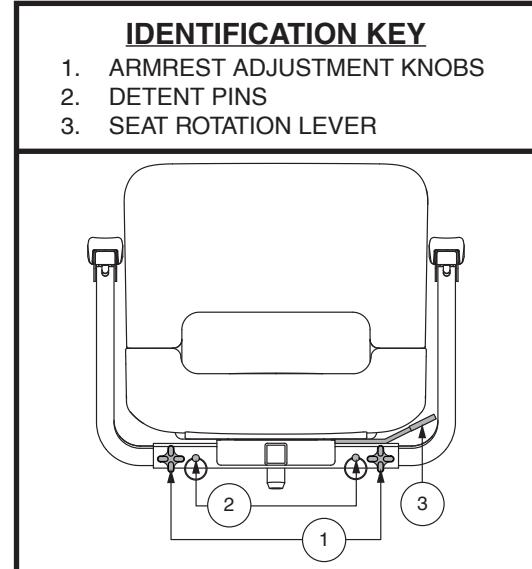

Figure 15. Seat Adjustments
1. Loosen the armrest adjustment knobs. See figure 15.
1. Depending on your seat type, either pull upward or push forward on the seat rotation lever to disengage the seat. **See figure 15.**